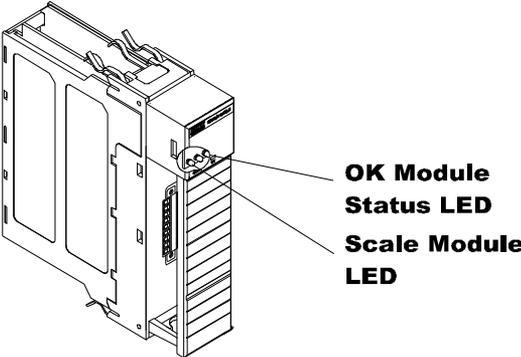

FIG. 4-1 MODULE LEDS SINGLE CHANNEL
Step 1. To make or change settings, there must be power to both the PLC and the module. Verify that the LED's are lit for normal operation. (See Figs. 4-1 and 4-2)